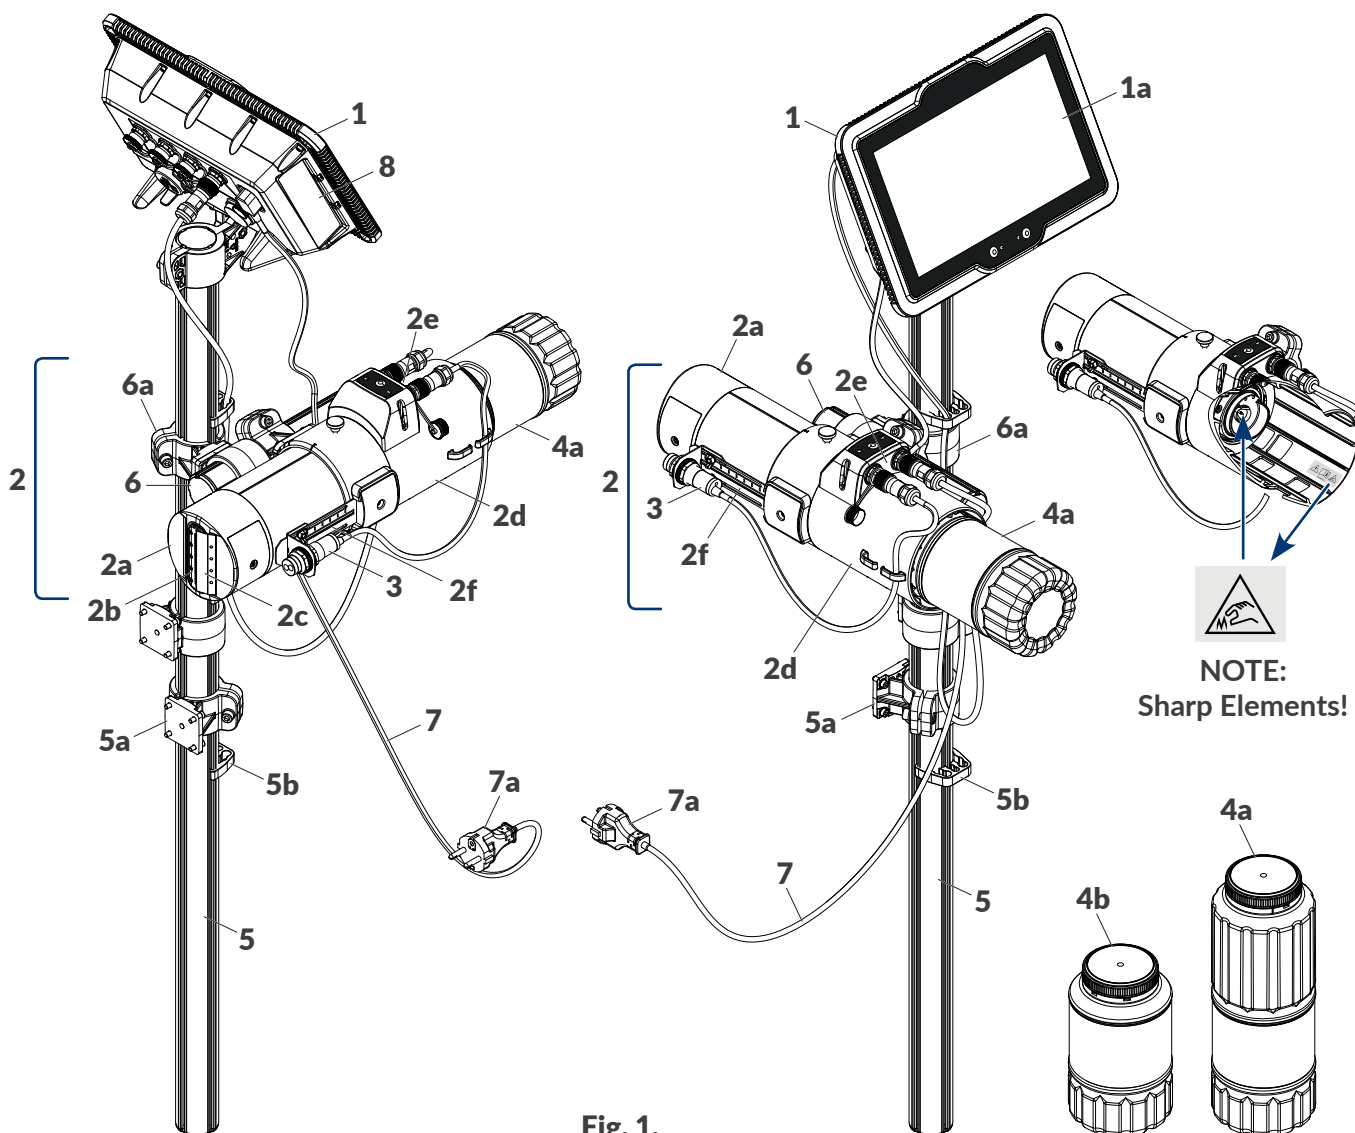

Fig. 1.
* - depending on a given country, power plug 7a may differ from that shown in Fig. 1.